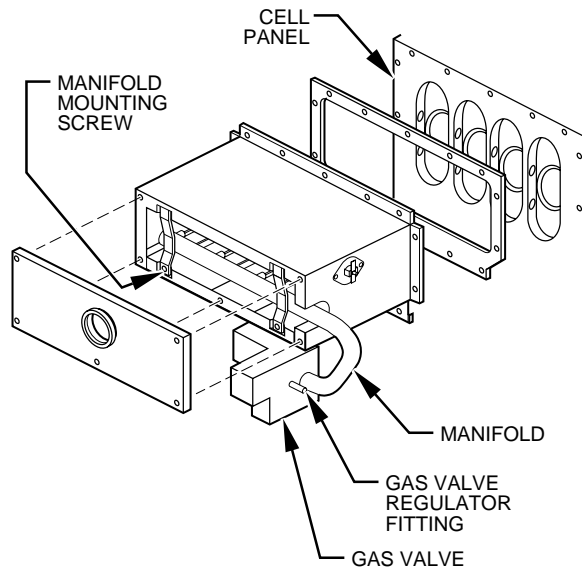

Fig. 5—Burner Box Assembly
9. Remove screws that secure manifold to burner box. (See Fig. 5.)
10. Remove screws attaching burner box to cell panel. (See Fig. 5.)
NOTE: Be sure burner box gasket is installed between burner box and cell panel. See Fig. 5. If gasket is damaged, replace it.